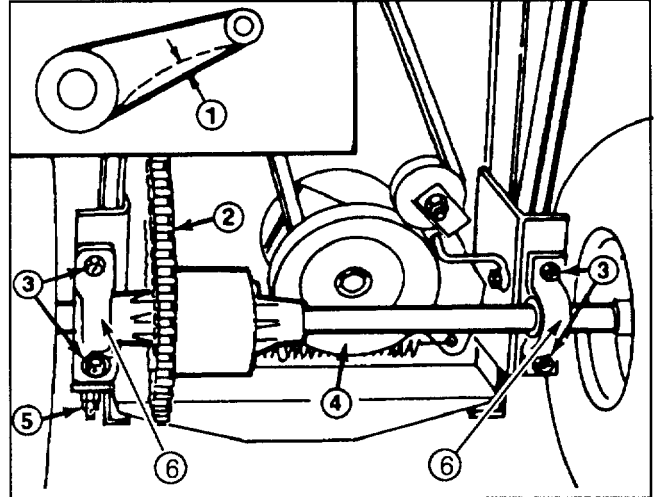

Figure 29
1. Check the deflection of the drive chain from bottom of rider by lifting up on chain with moderate pressure at mid span (Fig. 29). There should be 1/8 of an inch (3 mm) deflection (Fig. 29). If deflection is not as specified, an adjustment is required – steps 2-6.
2. Loosen four flange nuts securing pillow blocks w/ differential axle to the rider frame (Fig. 29).
5. Since differential axle must be parallel to rear of chassis, measure distance from center of pillow blocks to rear of chassis (Fig. 29). Difference between the two measurements must not exceed 1/4 inch (6 mm). If difference exceeds 1/4 inch (6 mm), differential axle is not parallel with chassis; therefore left side must be repositioned to attain desired dimension. Tighten locknuts securing left pillow block to rider frame.